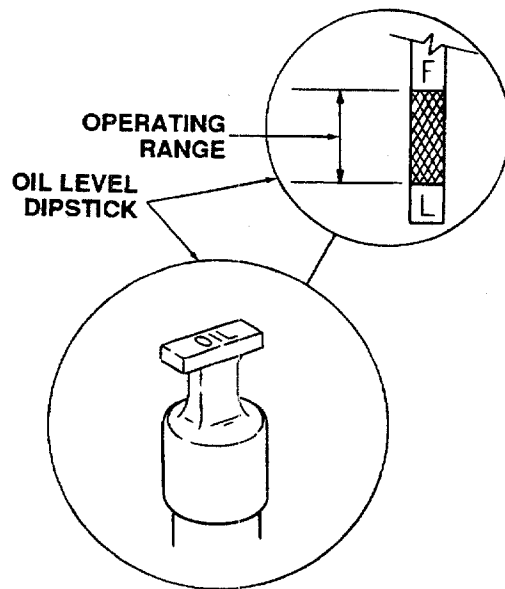

Figure 19
Before each use, the oil level of the engine crankcase should be checked to see that it is filled to correct level. Close monitoring of the oil level during the first 10 hours of operation of the engine is especially important. Before checking the oil level, clean the area around the oil fill tube and oil fill cap/dipstick to prevent debris from entering the crankcase. Always keep the oil level between the "FULL" and the "LOW" marks on the dipstick. (See Figure 19.) When checking the oil level, engine must be cold, the dipstick must be withdrawn and wiped clean, then inserted all the way and withdrawn for a true reading.
3. Remove the oil fill cap/dipstick from oil fill tube and SLOWLY pour oil into the oil fill tube. Fill the crankcase until the oil level reaches the "FULL" mark on the dipstick. (Refer to Figure 19.)
3. Remove the oil fill cap/dipstick from oil fill tube and **SLOWLY** pour oil into the oil fill tube. The oil capacity is approximately 4 pints. Fill the crankcase until the oil level reaches the "FULL" mark on the dipstick. (Refer to Figure 19.)